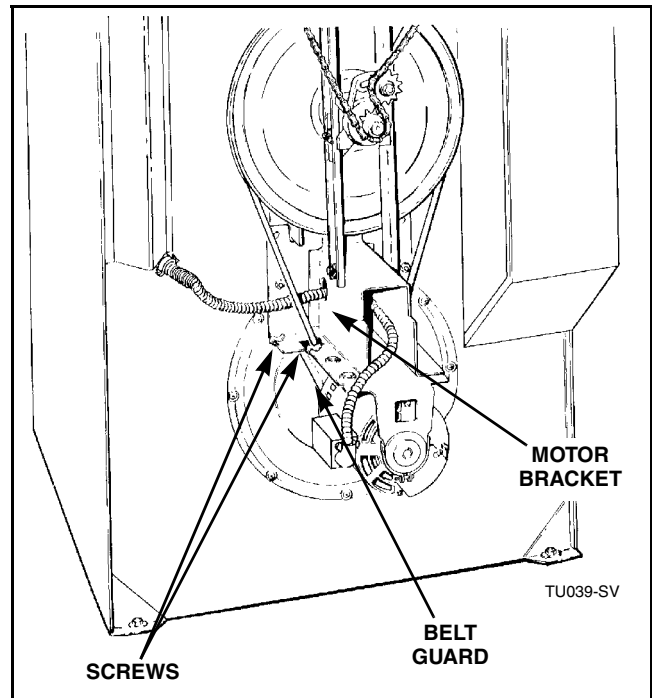

Figure 12
Remove two screws holding belt guard assembly to motor bracket. Refer to *Figure 12*.
- Remove two screws holding drive guard to motor bracket and remove belt guard. Refer to *Figure 12*.